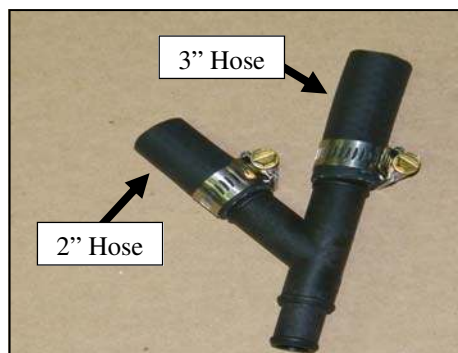

FIGURE 5.22
5.22 (GAS ENGINE (2013 and earlier) ONLY) Cut 2" and 3" pieces from the leftover lower hose and attach them to the y-fitting with hose clamps as shown in Figure 5.22.